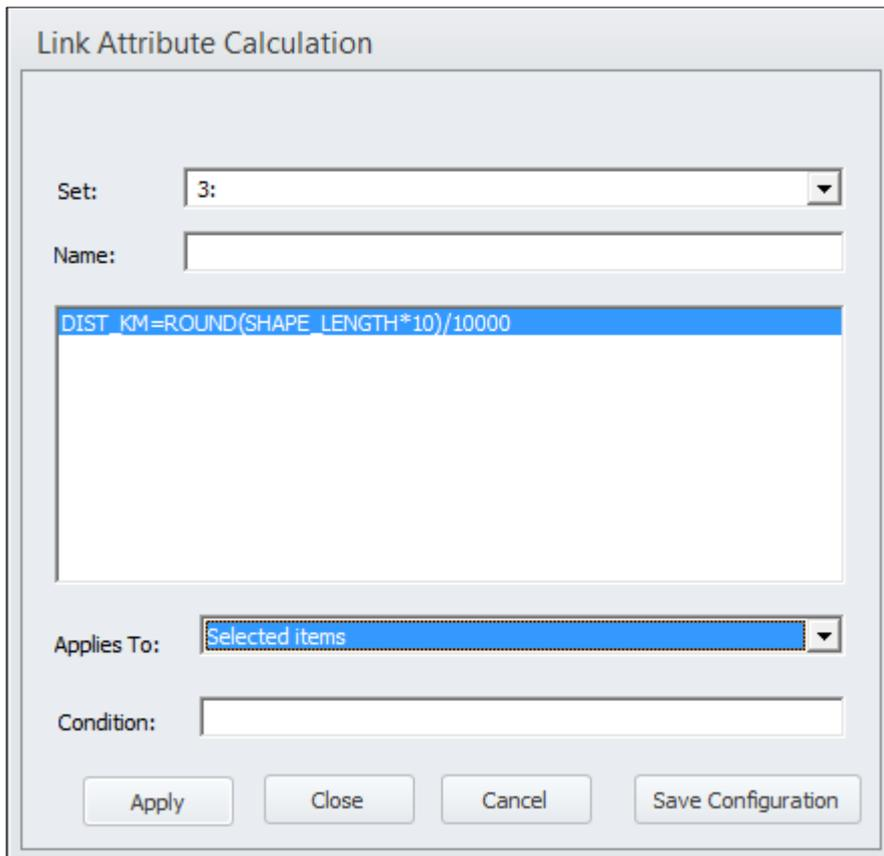

Figure 54 The Link Attribute Calculation window.
- k) DIST_KM: update using the SHAPE_LENGTH value using Link -> Compute tool as displayed in Figure 54 (note that “Selected items” must be selected in the “Applies To:” field)